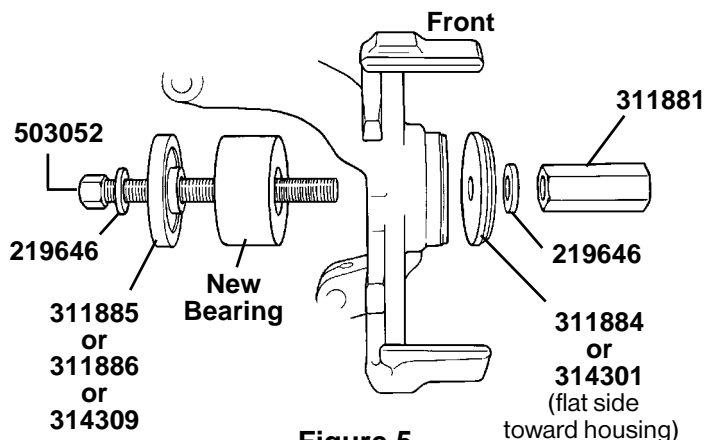

Figure 5
- The **1986-95 Taurus/Sable** application uses the larger bearing installer (No. 311885). See Fig. 5.
- The **1983-94 Tempo/Topaz and 1983-90 Escort/Lynx** applications use the smaller bearing installer (No. 311886). See Figure 5.